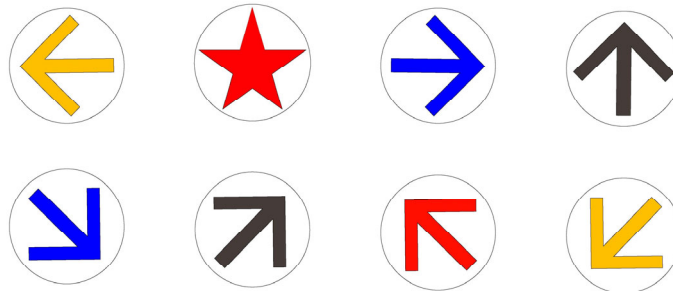

Figure 25.17
- 25.16. Directional pictograms orientation shall comply with figure 25.17.